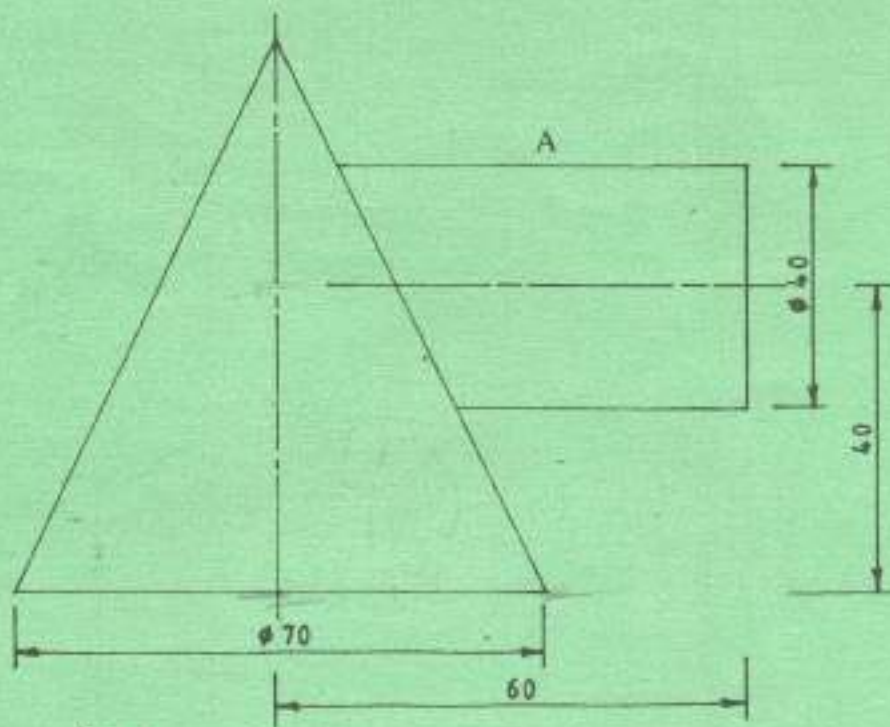

Fig. 3
4. Figure 3 shows the front elevation of a cylinder intersecting a cone. Copy the given view and draw the following: